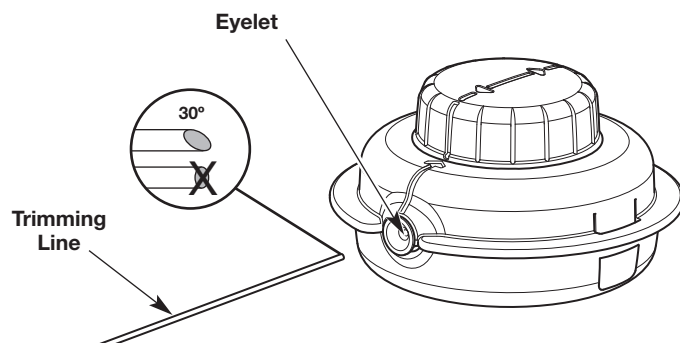

Fig. 20
- Cut two 10-foot (3.0 m) lengths of new trimming line. Cut one end of each line at a 30 degree angle (Fig. 20).
- Insert one of the lines into an eyelet on the cutting head (Fig. 20). Use the angled end and push the line in about 3 inches (7.5 cm). Repeat this process with the other line and remaining eyelet.